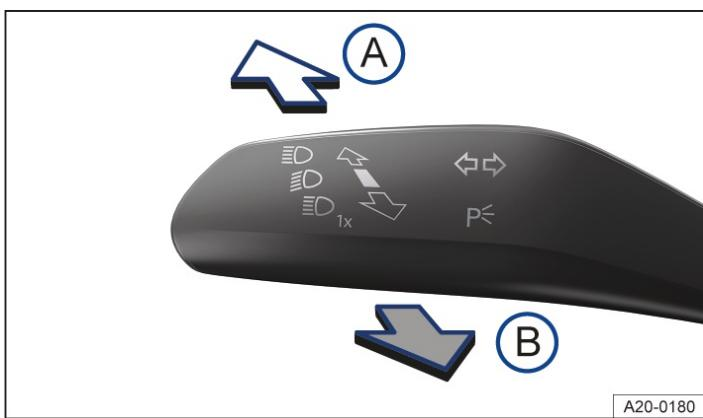

Fig. 1 On the left-hand side of the steering column: turn signal and main beam lever.
2. Move the turn signal and main beam lever from the centre position to the following position → Fig. 1:
- (A) Main beam switched on.
- (B) Operate the headlight flasher or switch off the main beam. The *headlight flasher* comes on for as long as the lever is pulled.